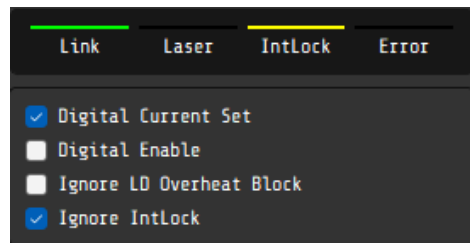

Figure 9. MAIMAN BENCHSOFT software setup for TTL modulation (without INTERLOCK button)
3. After that, in Device state flags panel you should activate two buttons: "Digital Current Set" and "Ignore IntLock" (if you don't use INTERLOCK button) as it shown in Figure 9.